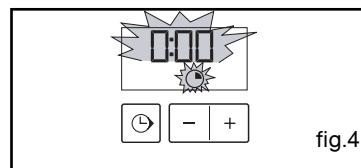

fig.4
- the cooking time indicator and 00:00 both flash (fig.4).